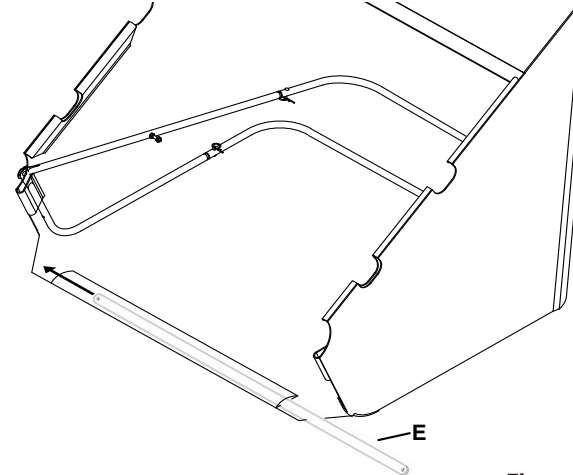

Figure 10
STEP 10: (SEE FIGURE 10)
- Slide the bag frame plate (E) into the bottom front of the hopper bag.